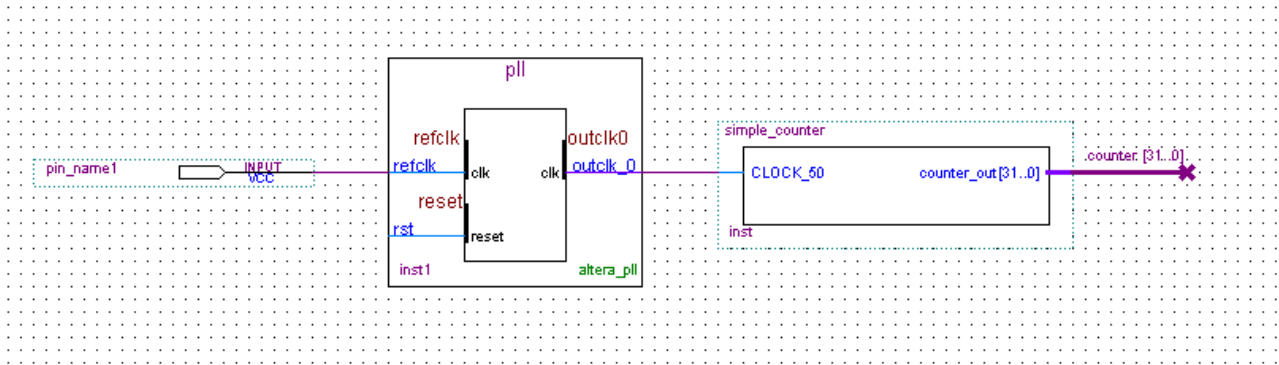

Figure 3-18 Connecting the PLL symbol and Input port
- e. Use the mouse to click and drag the new input pin to the left; notice that the ports remain connected as shown in Figure 3-18.